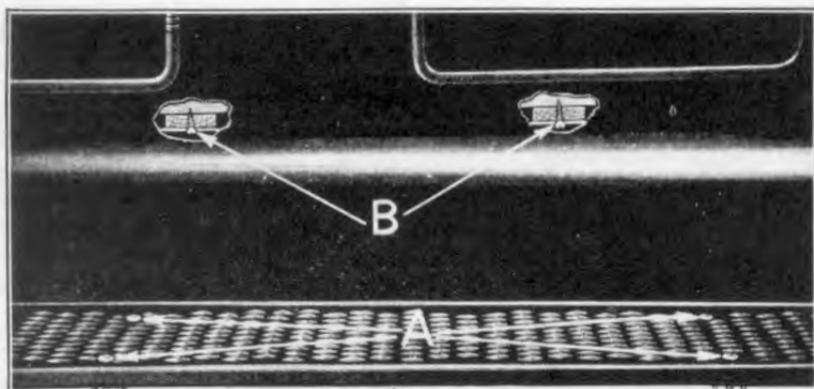

Fig. 542
- 1170 Run off the nuts on the ends of the four running board bolts (see "A" Fig. 542) and withdraw bolts. Running boards can now be lifted from brackets.
- 1172 Insert the four running board bolts (see "A" Fig. 542) through running board blocks and brackets, placing lockwashers over the ends of the bolts and running down the nuts. (Do not draw nuts down tightly until all bolts have been entered.)
- 1177 After removing the running board, run out the two wood screws which hold dust shield to body (see "B" Fig. 542).
- 1191 Run down the two dust shield to body screws through dust shield into body (see "B" Fig. 542).